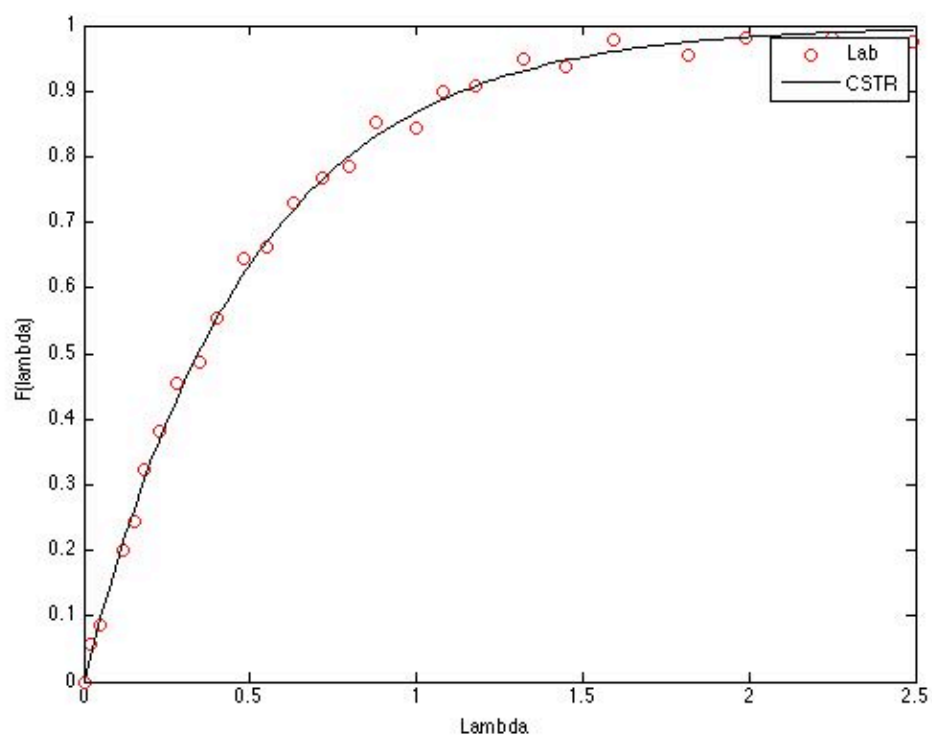

Figure1. Comparison of the experimental and ideal age functions.
The stimulus was a step change, so the age function,  $F(\lambda)$ , can be computed from the response using equation (1). Here, however, the response was measured as volume percent, not weight fraction. Assuming there is no volume change due to mixing, the two quantities are related according to equation (2). Upon substitution of equation (2) into equation (1) for each of the weight fractions and simplification, equation (3) results. Further noting that  $V_{\%,0} = 0$ ,  $t_0 = 0$  and  $V_{\%,f} = 0.99$  leads to equation (4), which can be used to calculate a value of  $F(\lambda)$  for  $\lambda$  equal to each of the times at which the response was measured. The resulting data can be plotted, as shown in Figure 1.
If the tested reactor obeys the assumptions for ideal CSTR, the age function should be given by equation (5). The average residence time,  $\bar{t}$ , that appears in equation (5) is found using equation (6). Substitution of equation (6) into equation (5) leads to equation (7) for the age function of an ideal CSTR that corresponds to the tested reactor. That age function is also plotted in Figure 1.